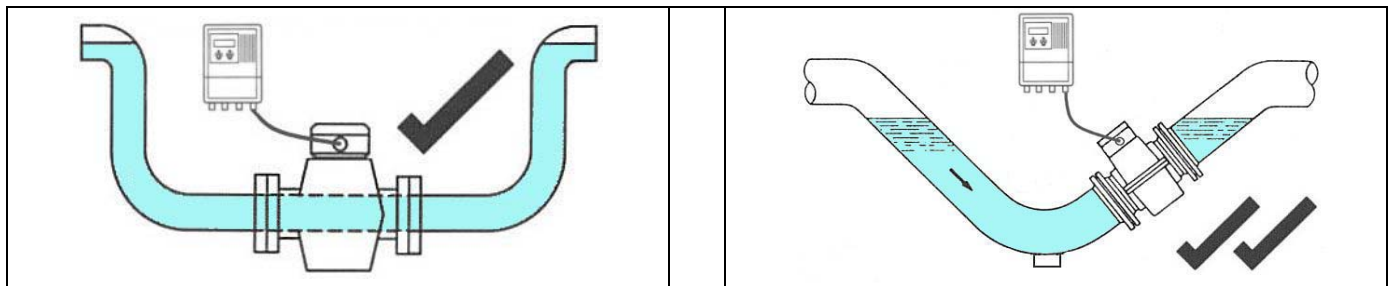

Fig 2. Pipe must be full at all times.
- install the flowmeter sensor in a section of pipe that is full at all times (as shown in Fig 2).